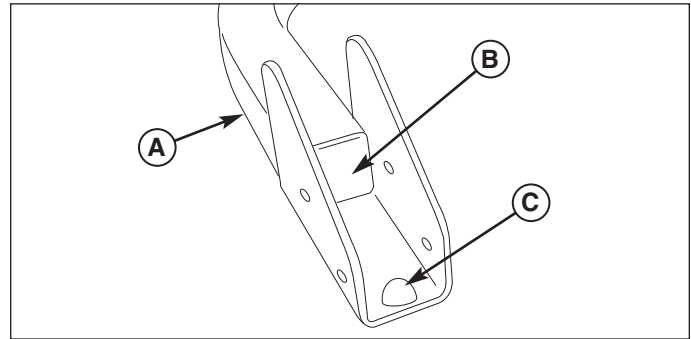

**Figure 6. Assemble the Retainer Pins**
2. Assemble the foam ring (A, Figure 6) onto the retainer pin (B).
3. Loop the snap end of the lanyard (C) through the retainer pin handle and snap together.
4. Install the lanyard anchor (D) onto the lanyard.
5. Install the clevis pin (E) onto the loop end of the lanyard as shown in Figure 6.